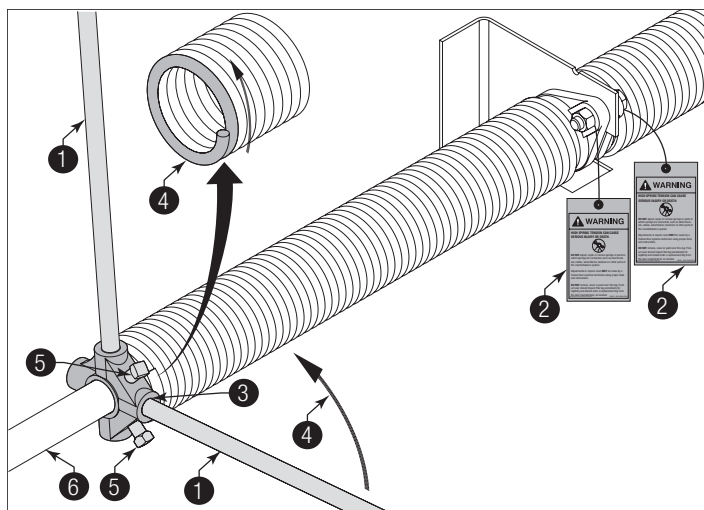

Figure 65
**PRIOR TO WINDING THE SPRING, ENSURE YOU'RE WINDING IN THE PROPER DIRECTION AS SHOWN IN FIGURE 65. OTHERWISE THE SPRING FITTING MAY RELEASE FROM SPRING AND RESULT IN SEVERE OR FATAL INJURY.**